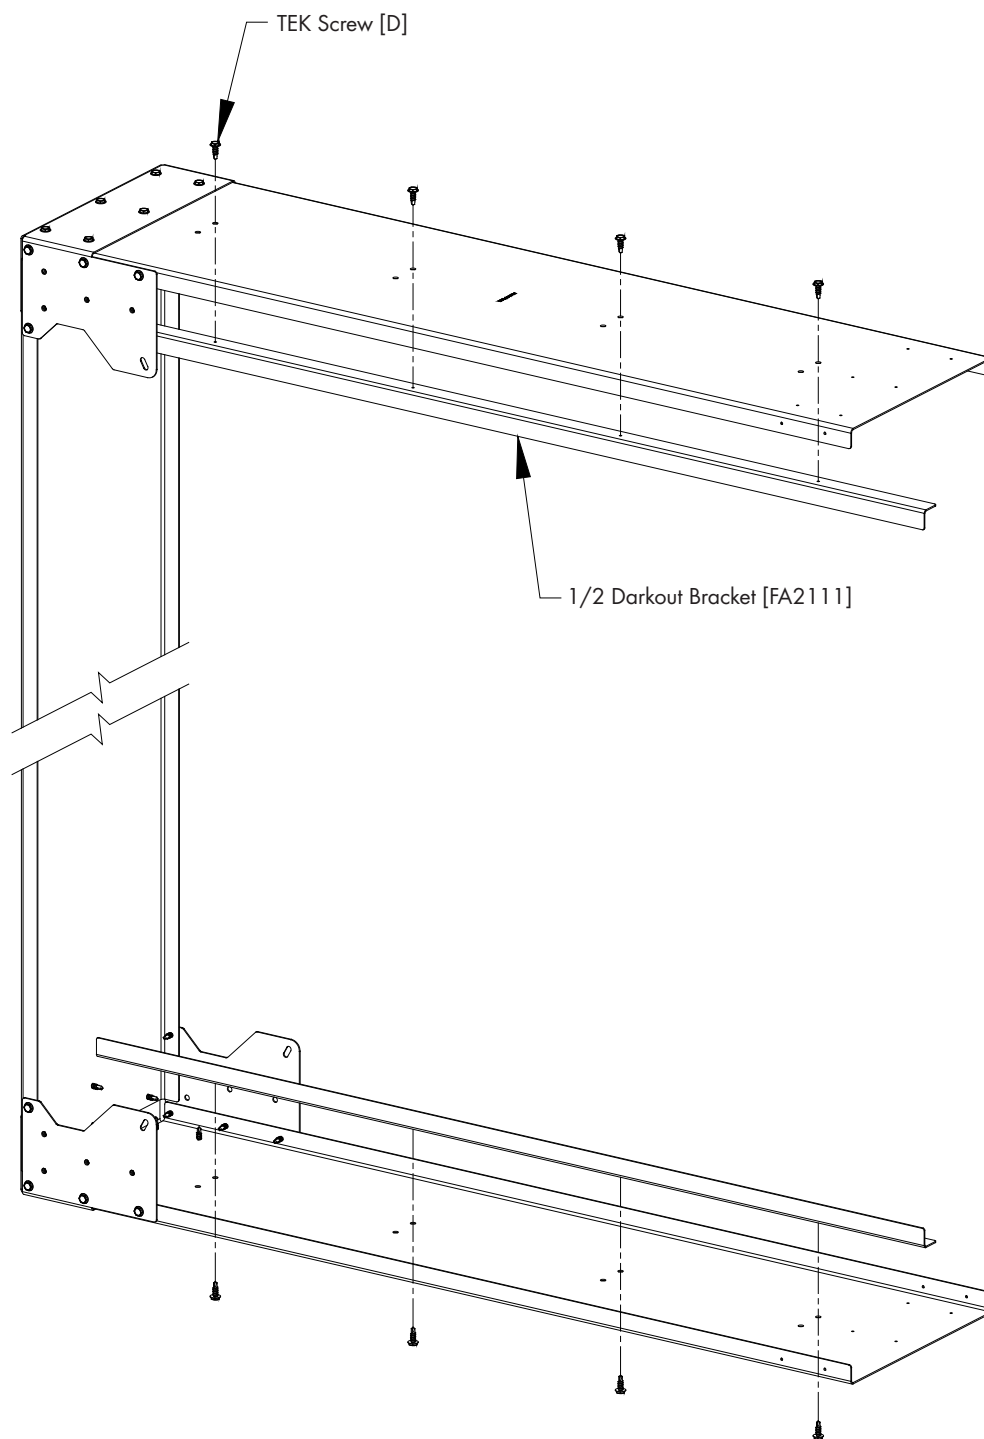

Figure 8
If you will be installing Full Depth Light Trap into the door then proceed to Step 9. If installing Half Depth Light Trap, proceed with this step. Attach a 48"L. 1/2 Darkout Bracket [FA2111] to the Top and Bottom Door Panels using (4) TEK Screws [D] per bracket. See Figure 8. The flat edge of the baracket should be facing the inlet side of the door.